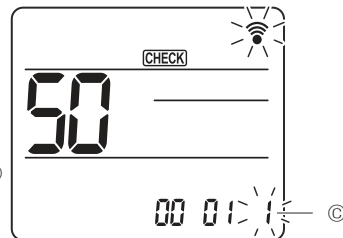

Fig. 7-20
④ Selecting the setting number
Use the [DOWN] button to change the Setting number ③. (Fig. 7-20)